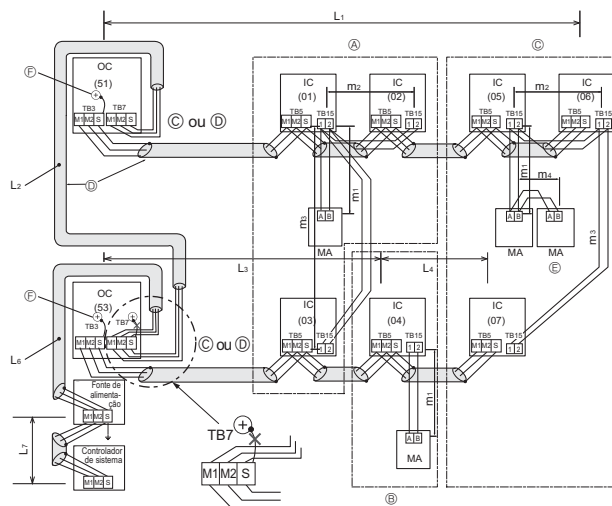

Fig. 6-3
■ Controlo Remoto MA (Fig. 6-3)